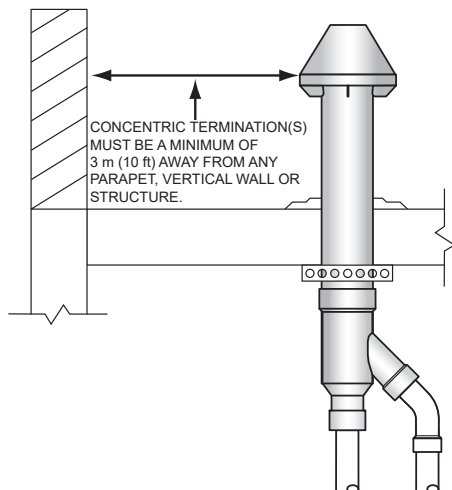
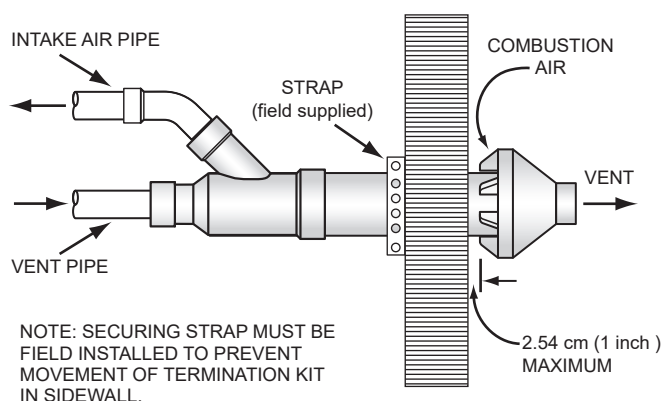

Figure 33. Flat Roof Concentric Termination - Roof Parapet Clearances
Figure 35. Concentric Termination - Sidewall Installation
When installing a concentric termination vertically through a flat roof, the termination's vent cap must be a minimum of 3 m (10 ft) away from any parapet, vertical wall or structure as shown in **Figure 33**.
on top. See **Figure 35** (page 35).
- C. Secure assembly to structure as shown in **Figure 35** or **Figure 33** using field-supplied metal strapping or equivalent support material.
6. Cement heater combustion-air and vent pipes to concentric vent termination assembly. See **Figure 35** for proper pipe orientation and attachment.